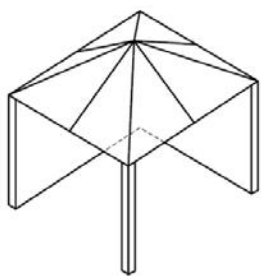

FIGURE F2—OUTDOOR AREA—EXAMPLE 2
- (2) Within a partial enclosure that includes an overhead cover and no more than two walls. See figures F2 and F3.